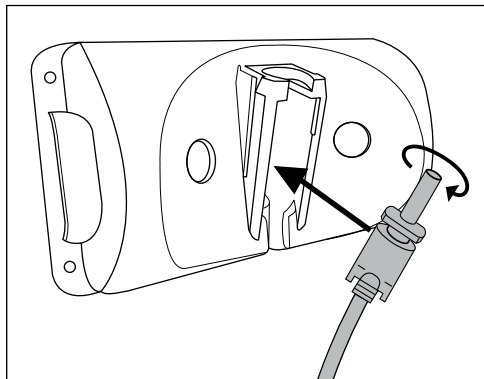

Fig. 1
- ▶ Ensure that there are no power cables or other conduits or pipes in the wall at the location where you intend to bore the holes for the wall bracket ③. Drilling into a current-carrying electric cable can be potentially fatal!
- 1) Place the barrel plug ⑤ of the mains adapter ④ into the wall bracket ③ as shown in the diagram. Secure the barrel plug ⑤ by turning it (see fig. 1).